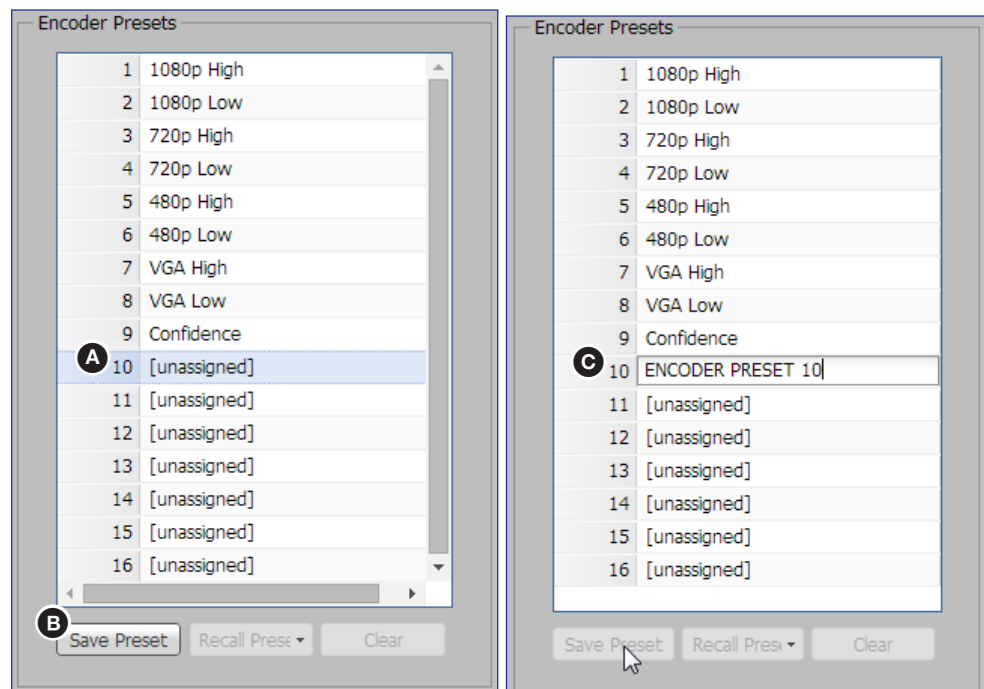

Figure 63. Encoder Presets, Save Preset
9. In the **Encoder Presets** panel (figure 63, **A**), select (click on) an unassigned preset.